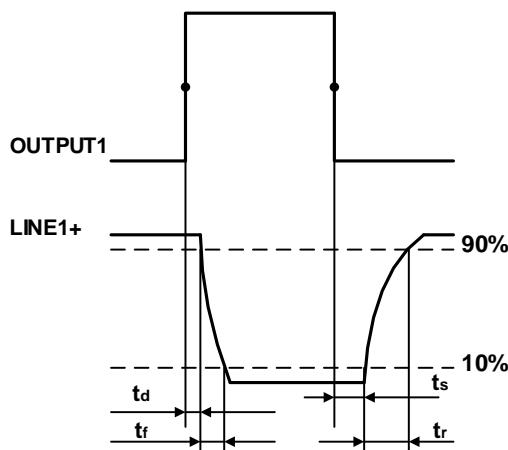

Figure 7-6 Parameter of opto-isolated output circuit
- Rising time delay = $tr+td$: <50μs (0°C~45°C) (parameter description is shown in Figure 7-6)
- Falling time delay = $ts+tf$: <50μs (0°C~45°C) (parameter description is shown in Figure 7-6)
- Rising time delay = tr+td: <20μs (0°C~45°C) (parameter description as shown in Figure 7-6)
- Falling time delay = ts+tf: <20μs (0°C~45°C) (parameter description as shown in Figure 7-6)